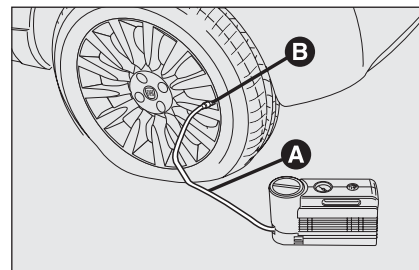

fig. 13
- ☐ **Pull up the handbrake.** Loosen tyre inflation valve cap, take out the filler hose **A**-fig. 13 and screw the ring nut **B** on the tyre valve;